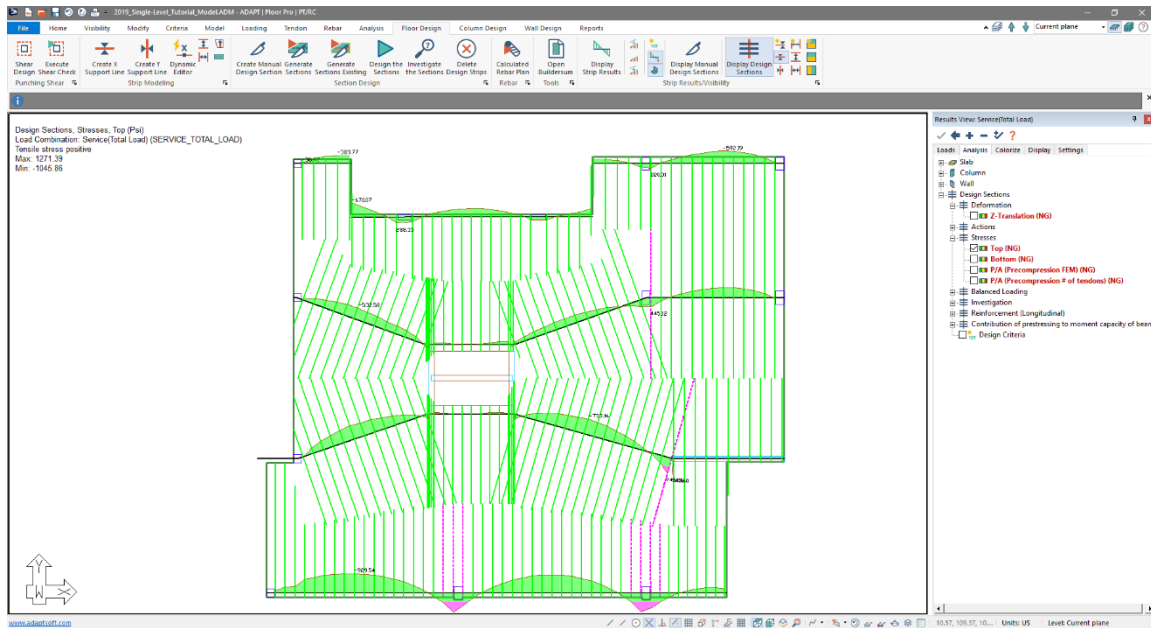

Figure 8-52
- In the *Analysis* tab, find *Design Sections* → *Stresses* → *Top* and check the box to the right. The user should now see on screen the design section results for the support lines in the X-direction for top stresses as shown in **Figure 8-52**.